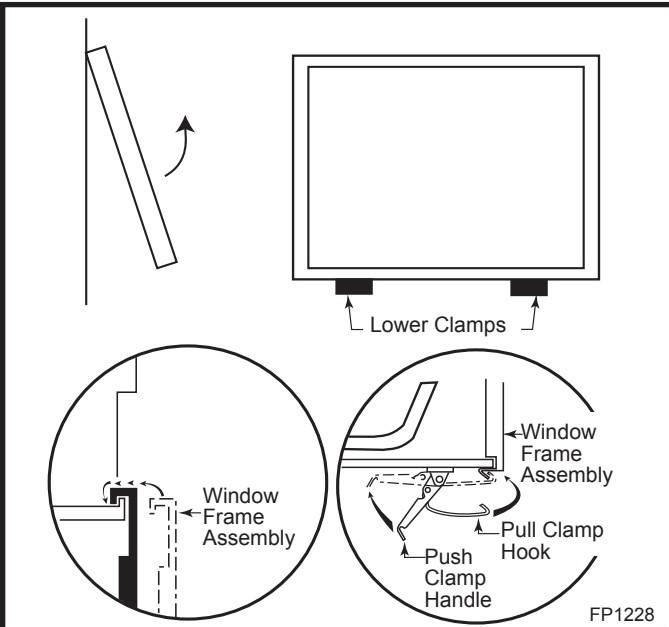

Fig. 42 Window frame assembly removal.
- Release the two clamps securing the lower edge of the window frame assembly by pulling down on the handles. (Fig. 42)